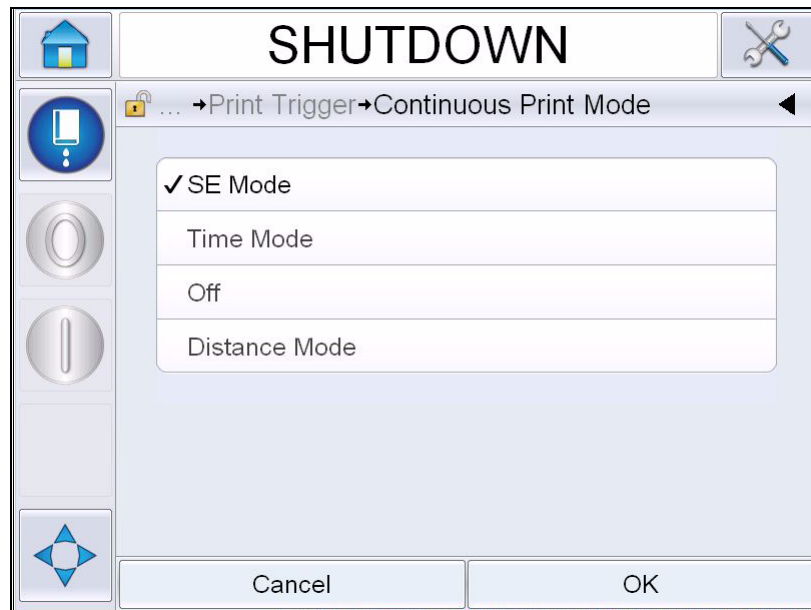

Figure 4-23: Continuous Print Dialog Box
- 1 Select *Continuous Print* from the *Print Trigger Menu*. The *Continuous Print* dialog box appears (see Figure 4-23).